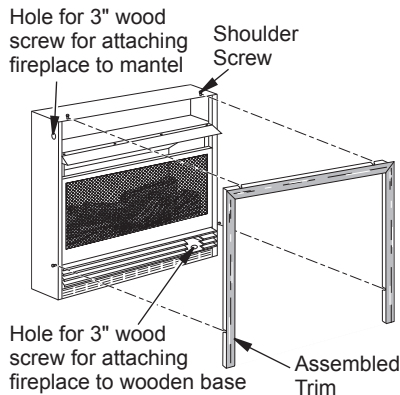

Figure 12 - Attaching Trim to Fireplace
5. Firmly snap trim kit on shoulder screws. Shoulder screws are located on fireplace cabinet (see Figure 12).
7. Use two 3" wood screws provided and attach fireplace base to wooden base (see Figure 12).
14. Place trim kit on the shoulder screws located on the side and top of the fireplace. Firmly snap the trim over the shoulder screws on fireplace (see Figure 12, page 12).